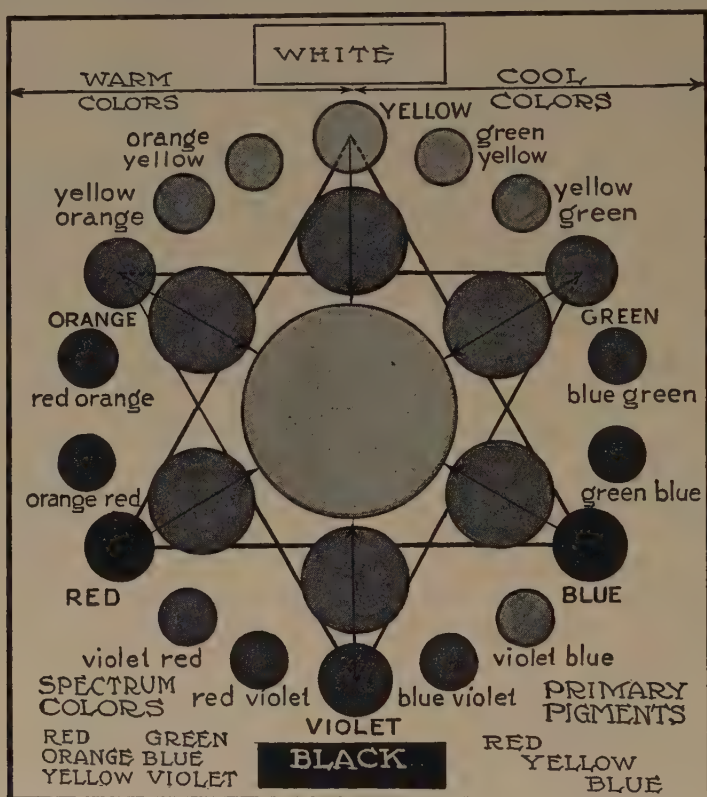

FIG. 253. — Color chart.
**Color nomenclature.** We find few pure colors in things about us; instead, there are mixtures of two or more pure colors. The dominant spectrum color in these mixtures is called *hue*. For example, the eighteen outer circles in the chart shown in Fig. 253 — *y, g-y, y-g, g, b-g*, etc. — are hues. Hues which lie opposite each other in this chart are *complementary*, and will, if mixed in equal amounts, neutralize each other and yield *neutral gray*, shown in the large central circle.
**Color charts.** Refer to Fig. 253. When each spectrum color is modified by an adjacent color, the resulting hue is designated in a way